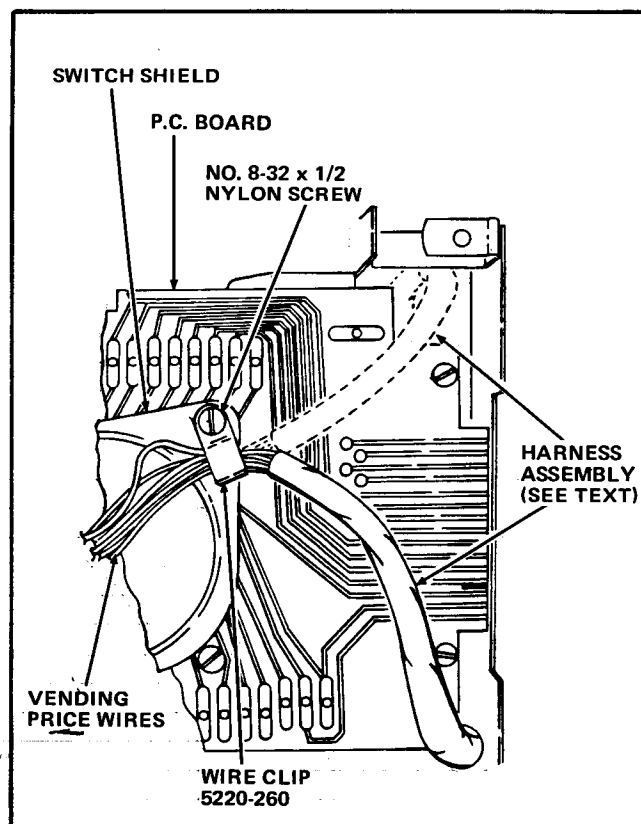

FIGURE 10
1. On the Recorder Unit Assembly, remove the No.8-32 x 1/2 Pan Head Nylon Screw attaching the upper right end of the Switch Shield to the PC Board. See Figure 10.
2. Route the Vending Pricing Wires Harness Assembly as shown solid in Figure 10. Attach the Harness Assembly to the PC Board as shown using the Wire Clip, Part Number 5220-260, included in the Kit, and the No.8-32 x 1/2 Nylon Screw removed in step N-1, above.
3. Route the Vending Pricing Wires Harness Assembly as shown dashed in Figure 10. Attach the Harness Assembly to the PC Board as shown using the Wire Clip, Part Number 5220-260, included in the Kit, and the No.8-32 x 1/2 Nylon Screw removed in step N-1, above.